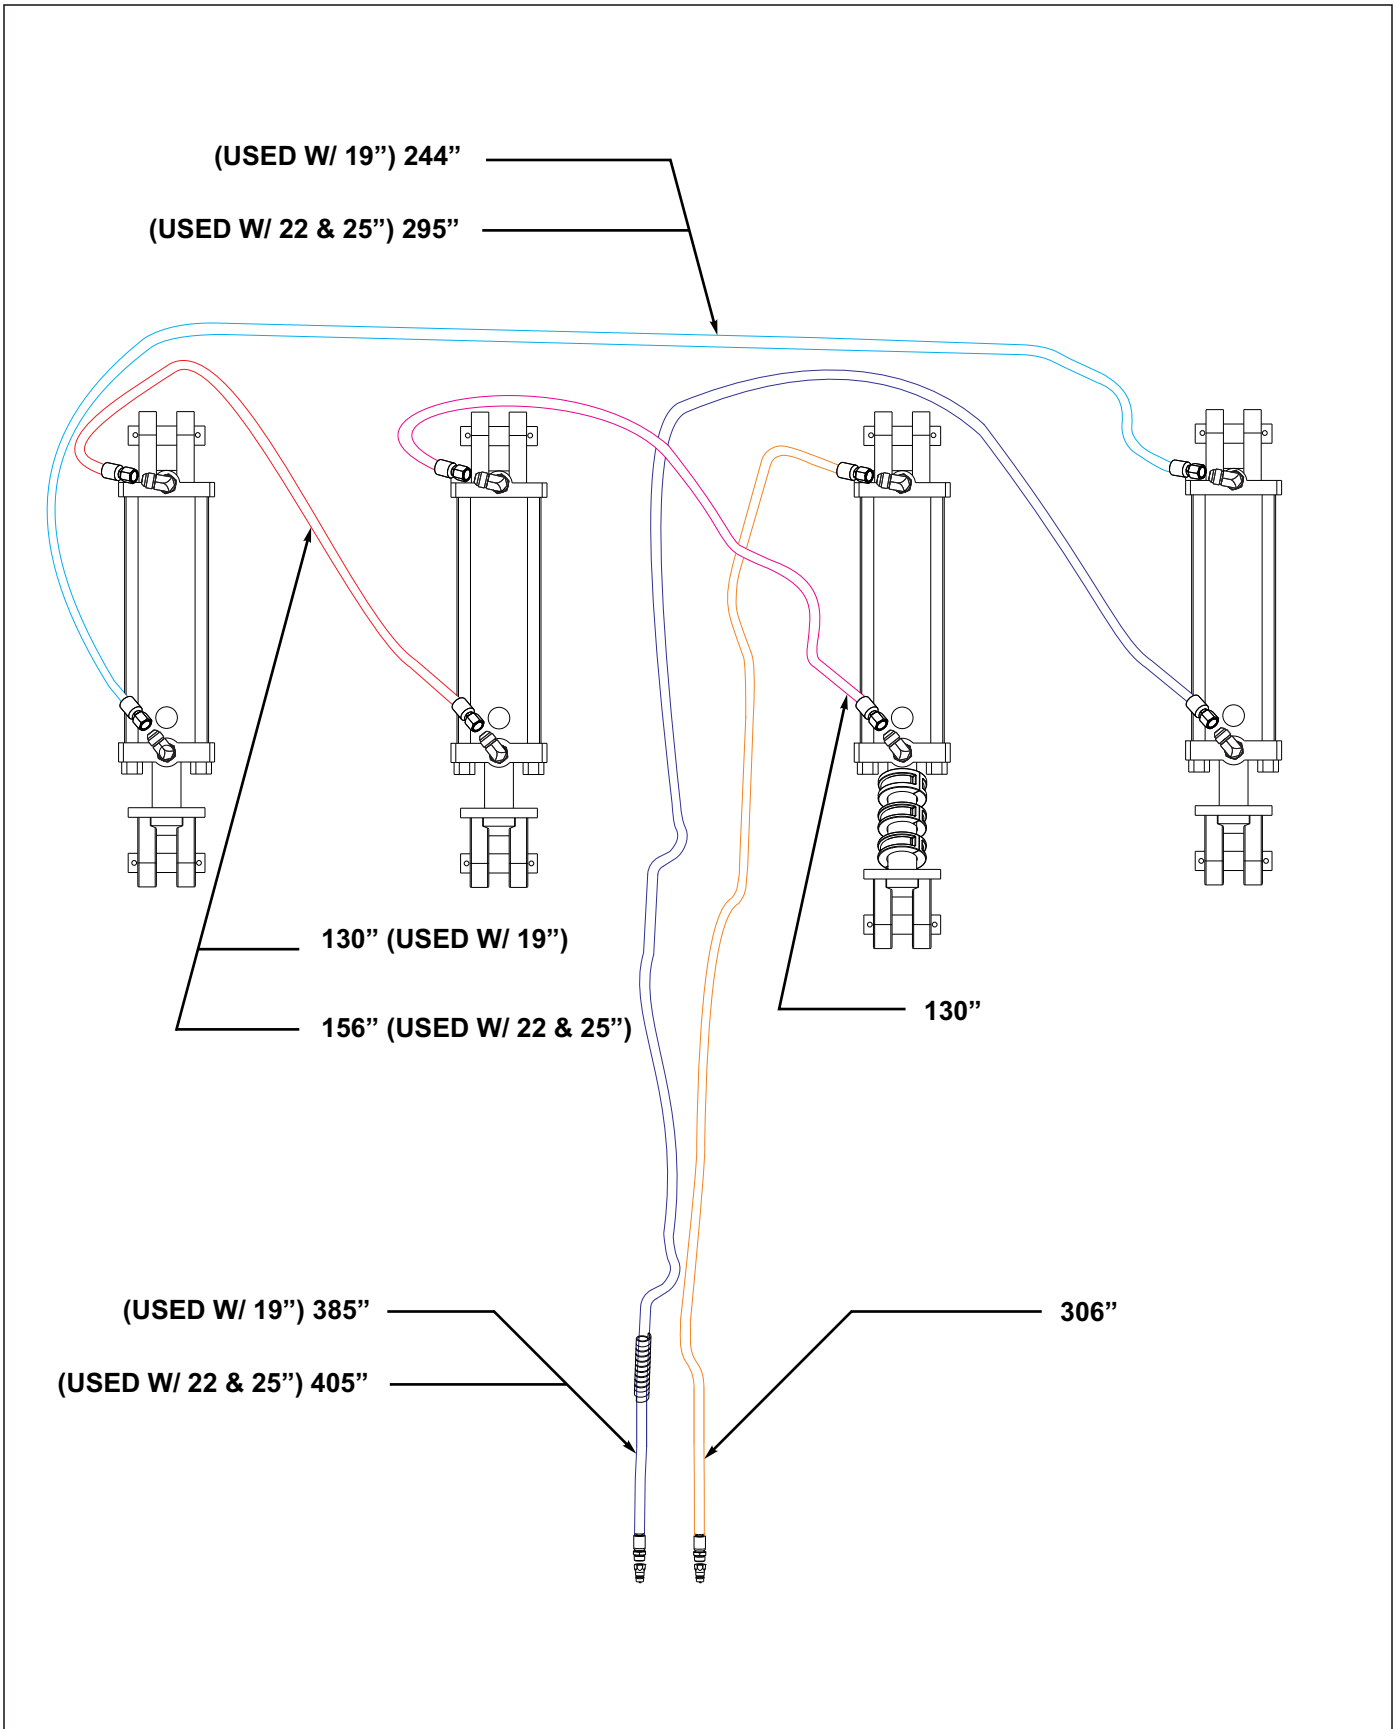

Figure 3-25: Hydraulic Gangs Installation 19'-25'
4. For optional hydraulic disc gang adjustment – Install the gang adjustment cylinder fittings and hoses as shown in **Figures 3-25 through 3-27**. Route the hoses along the right side of the hitch, and through the hose loops provided along the frames.
2. For the optional hydraulic gang adjustment – connect the gang cylinders hoses to the tractor and charge the cylinders with oil See Figures 3-25 through 3-27. Charge the hydraulic disc gangs with oil before attempting to fold the finisholl (See “Hydraulic Disc Gang System” on page 4-4.) Watch the disc gangs carefully when initially charging with oil to make sure the gang do not bottom out on the frame when cycling. Disc gangs may require leveling before being able to fully cycle.